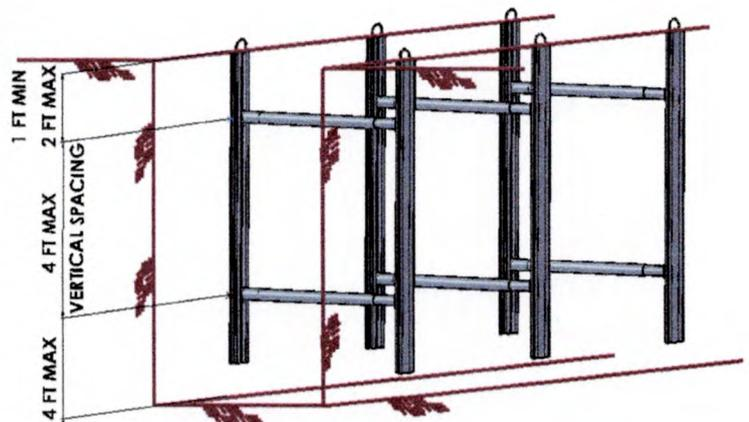

Figure 11 - Vertical
Step 4 - Determine vertical cylinder spacing (Figure 11)